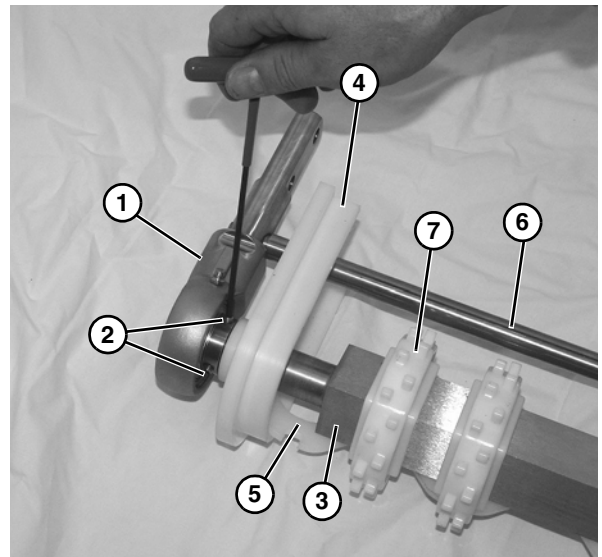

Figure 59
- Remove the bearing cover from bearing shaft assembly (Figure 59, item 1).
- Use a hex wrench to loosen two set screws (Figure 59, item 2) on the bearing shaft assembly (Figure 59, item 1).
- Slide the bearing shaft assembly off of the drive spindle (Figure 59, item 3). Slide bearing shaft assembly off the drive spindle on opposite side.
- Remove pinch guard (Figure 59, item 4) on each side.
- Remove sprocket alignment bar (Figure 59, item 5), and pinch guard shaft (Figure 59, item 6).
- Remove the sprockets (Figure 59, item 7).